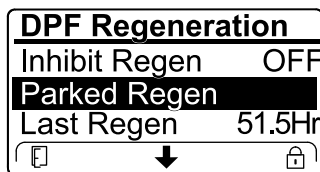

Figure 87
- If the engine computer requests a recovery regeneration or is processing a recovery regeneration and you scroll down to the PARKED REGEN option, parked regeneration locks and the lock icon (Figure 87) appears in the lower right corner of the InfoCenter.